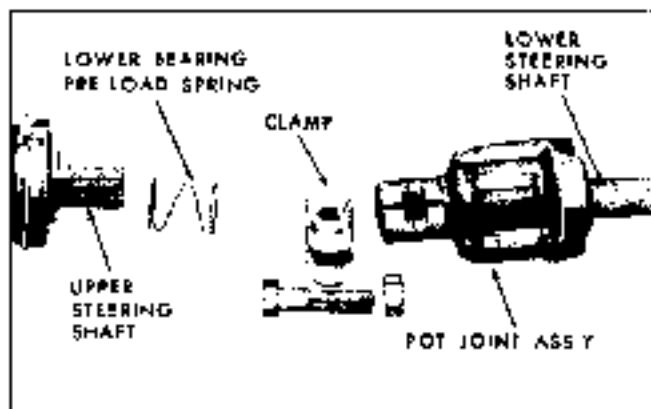

Fig. 9-17 Removing Pot Joint and Lower Shaft from Upper Steering Shaft (Tempest Only)
3. Mount column in vise, using tool J 22573 (Fig. 9-15) or by clamping one tapping plate in a vise (Fig. 9-16). On Tempest models disconnect lower shaft and nut joint from upper shaft by removing clamp (Fig. 9-17) if nut joint is to be serviced.
NOTE: On Tempest models assemble lower steering shaft and put joint to upper steering shaft. Tighten clamping nut to 32 lb. ft. (Fig. 9-17).
3. Mount column in vise using tool J 22573 (Fig. 9-15) or by clamping one tapping plate in a vise (Fig. 9-16). On Tempest models disconnect lower shaft and pin joint from upper shaft by removing clamp (Fig. 9-17).